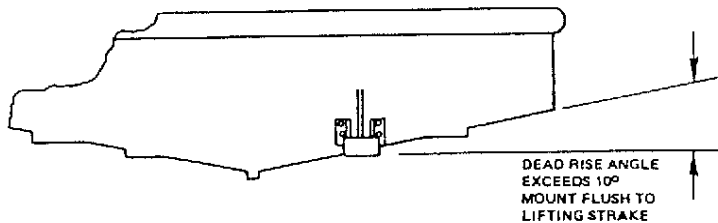

Figure 2-8. Mounting on Transom Parallel to Waterline
- b. If the transducer is to be mounted parallel to the waterline, locate the transducer as illustrated in Figure 2-8.